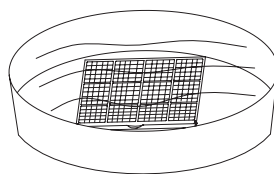

fig. 14
- 3 Insert the evaporator filter frame, condenser filter frame, evaporator filter mesh and the filter line of the condenser into a hot water solution (approx. 40 °C) with neutral detergent and rinse them (see Figure 14).